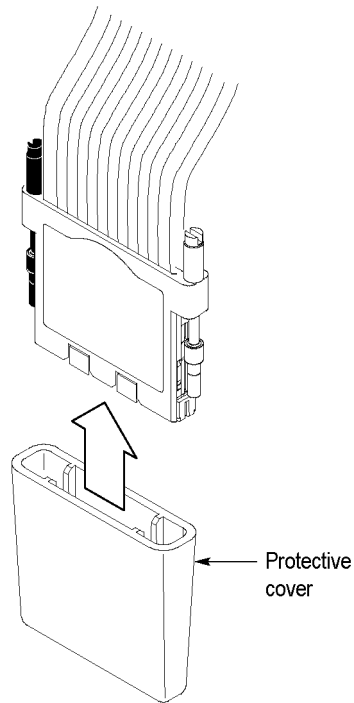

Figure 16: Protecting the probe heads
- Always store the probe head in the protective cover when not in use. (See Figure 16 on page 20.)
To protect the interface clip, it is important to properly store the probe heads when the probes are not in use. (See Figure 16.)